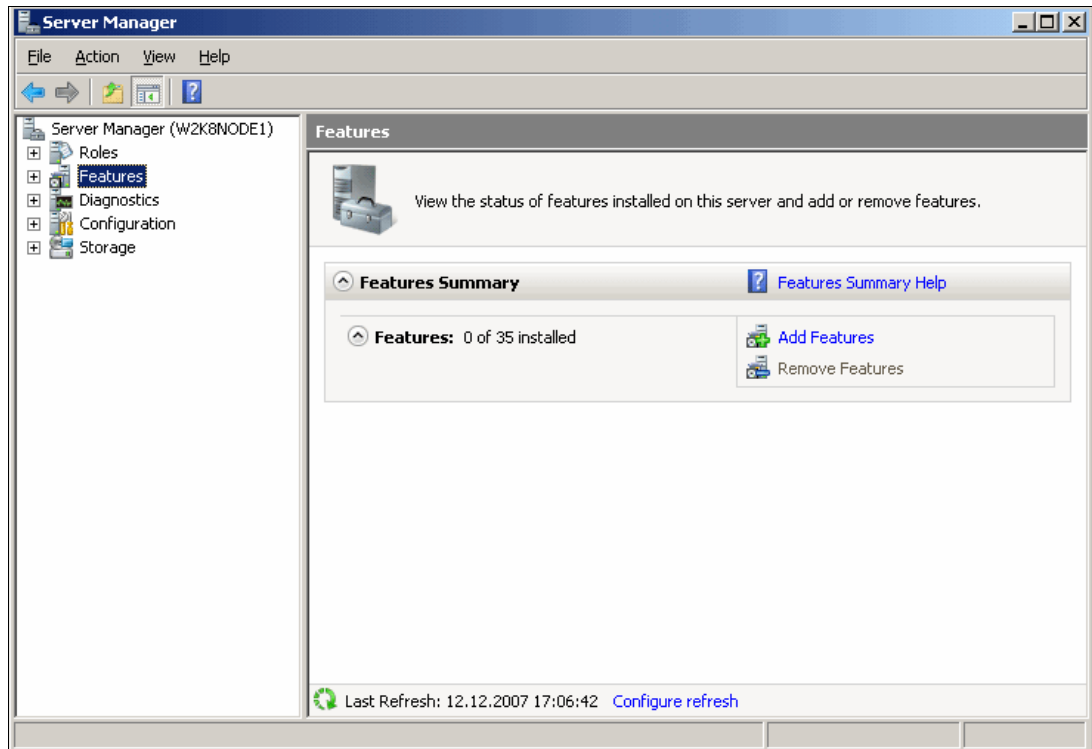

Figure 19-9 Add Features
1. In Server Manager, expand **Features** and select **Add Features** as shown in Figure 19-9 on page 564.